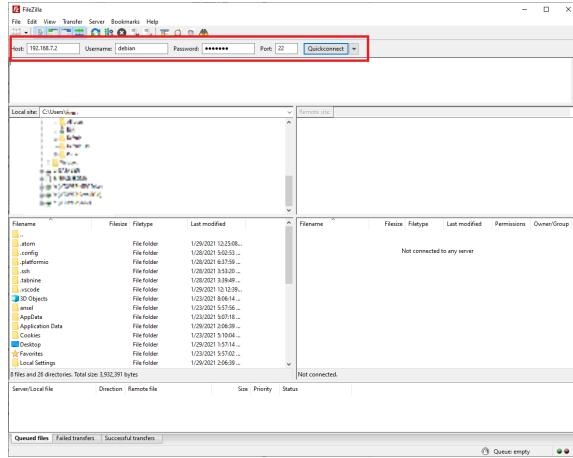

Figure 4.9: FileZilla Credentials Menu
3. Enter BeagleBone access credentials at the top of the window. This process is very similar to starting a PuTTY connection (Fig. 4.9).